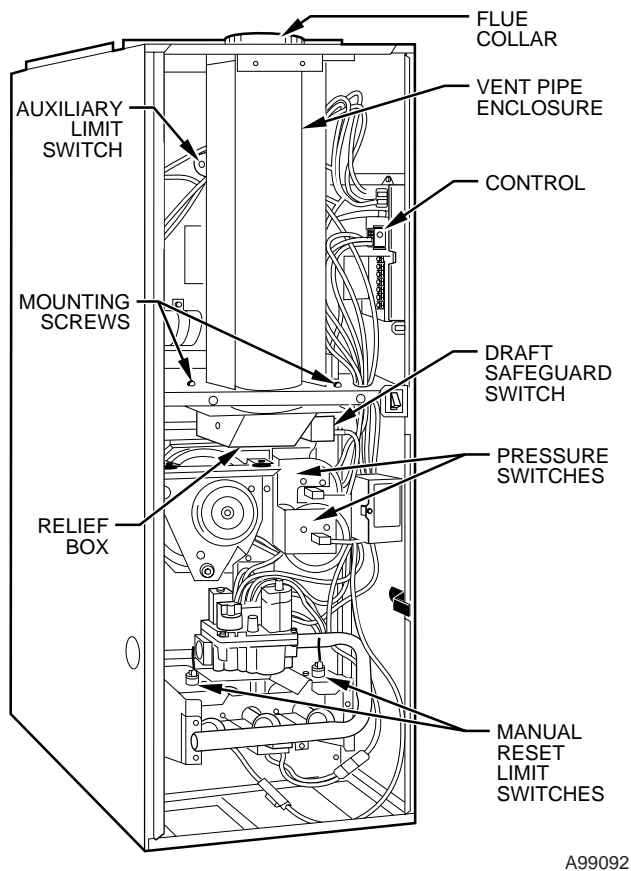

Fig. 7—Model 331AAV Downflow
- a. Disconnect vent connector from furnace flue collar. (See Fig. 7.)